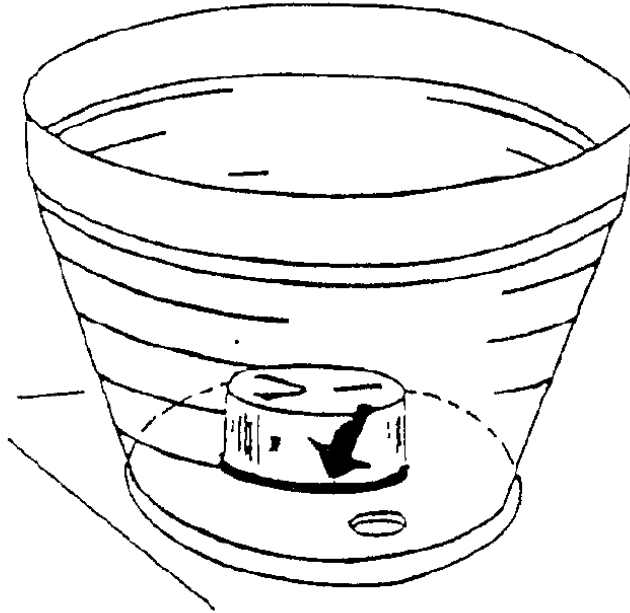

Figure 7.
2. Be sure the gasket has been assembled properly. Before removing the bowl wait 10 minutes after shutting off the refrigeration system to allow time for the ice beneath the bowl gasket to melt. Check gasket for tears or cuts in rubber as they cause leaks. (See Figure 7.)